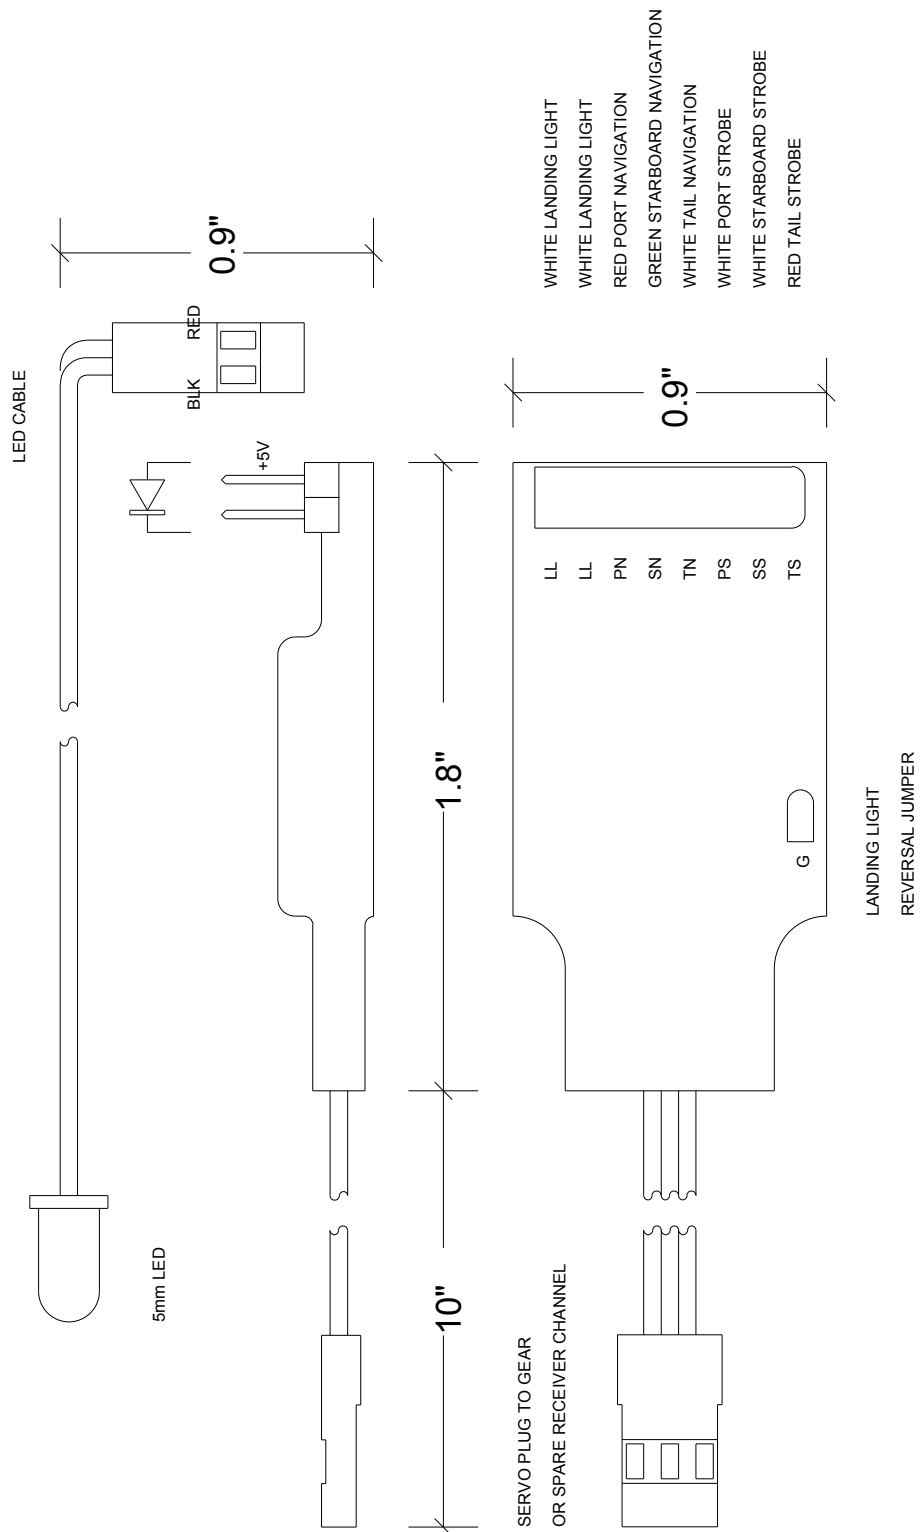

Figure 1. Module Dimensions
- if the gear or spare receiver channel polarity is reversed, short the landing light reversal jumper by cutting part of the heatshrink and soldering a short piece of wire across the two pads. See Figure 1 for the location of the landing light reversal jumper.